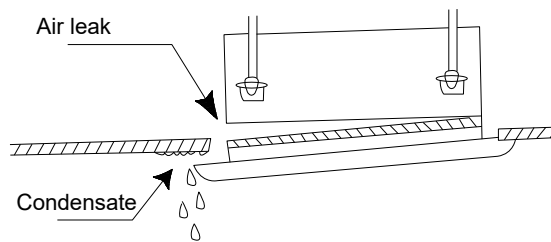

Figure 3-1-46
(7) Improper screwing of the screws may cause the troubles shown in Figure 3-1-46.